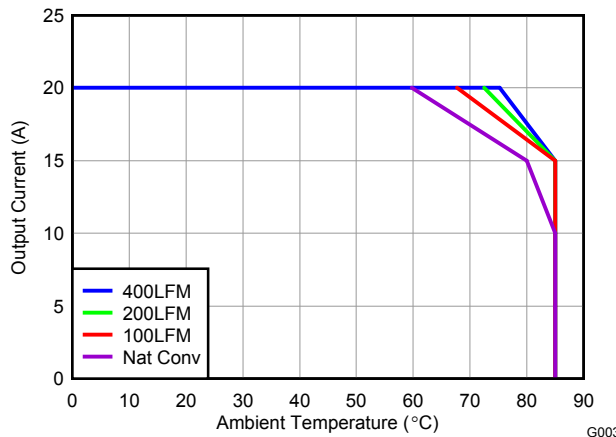
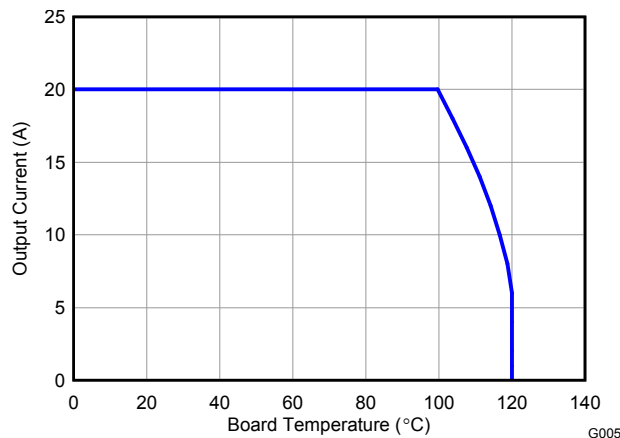

Figure 3. Safe Operating Area – PCB Vertical Mount⁽¹⁾
Figure 5. Typical Safe Operating Area⁽¹⁾
The SOA curves in the CSD86330Q3D data sheet provides guidance on the temperature boundaries within an operating system by incorporating the thermal resistance and system power loss. Figure 3 to Figure 5 outline the temperature and airflow conditions required for a given load current. The area under the curve dictates the safe operating area. All the curves are based on measurements made on a PCB design with dimensions of 4" (W) x 3.5" (L) x 0.062" (T) and 6 copper layers of 1 oz. copper thickness.